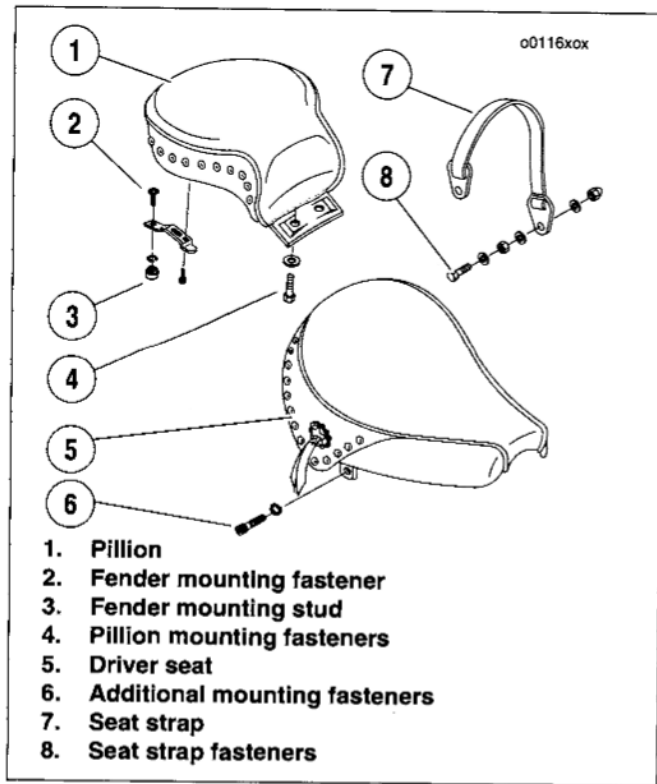

Figure 48. FLSTC/FLSTF Seat
*See Figure 48. To attach pillion seat to drivers seat, tighten the pillion mounting fasteners until snug.*
2. See Figure 48. Place seat through the seat strap.
5. See Figure 48. Install the two seat (Item no. 6) mounting fasteners to the frame; secure until snug.